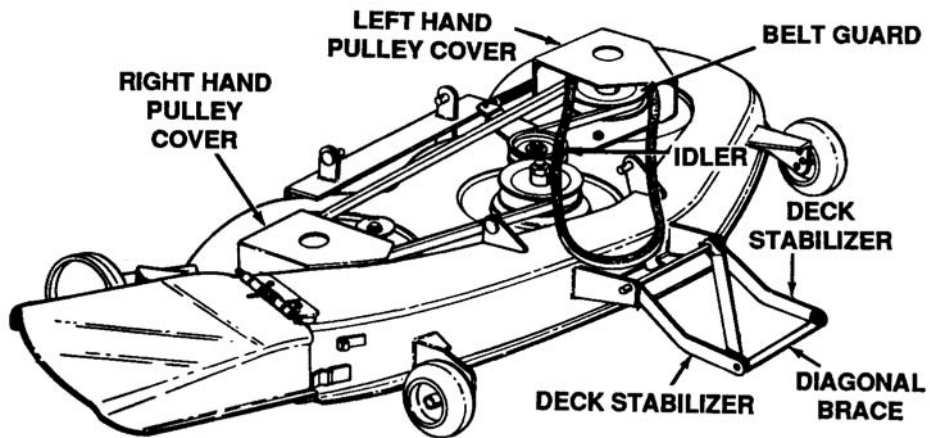

Figure 8-34. Removing Pulley Covers
2. Remove the left hand pulley cover by unhooking the spring and removing five self-tapping screws. See Figure 8-34.